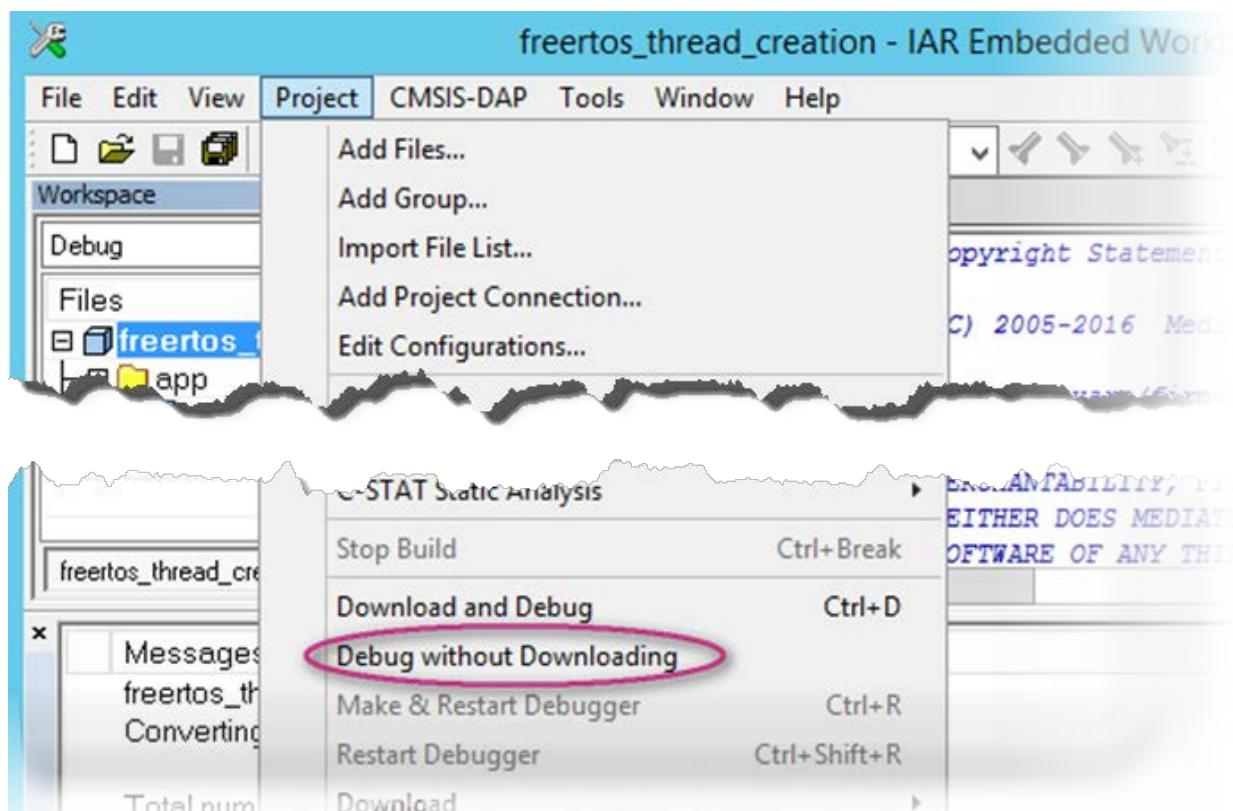

Figure 75. Debugging the project without downloading
- 5) Navigate to **Project**, and click **Debug without Downloading**, as shown in Figure 75.